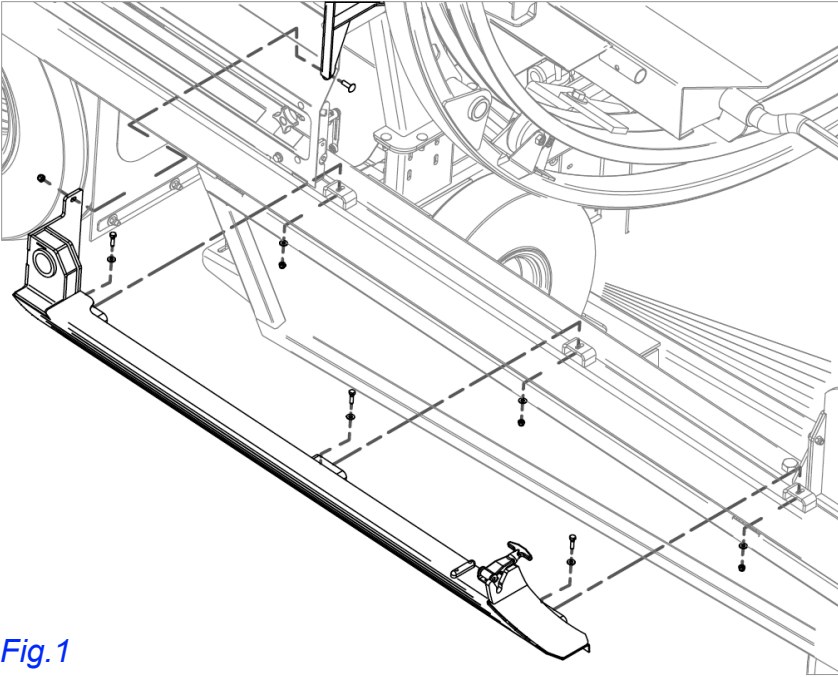

Fig. 1
3. Install bottom safety guard mounts using bolts, washers and nuts. Left side shown in *Fig. 1*, right side is the same.